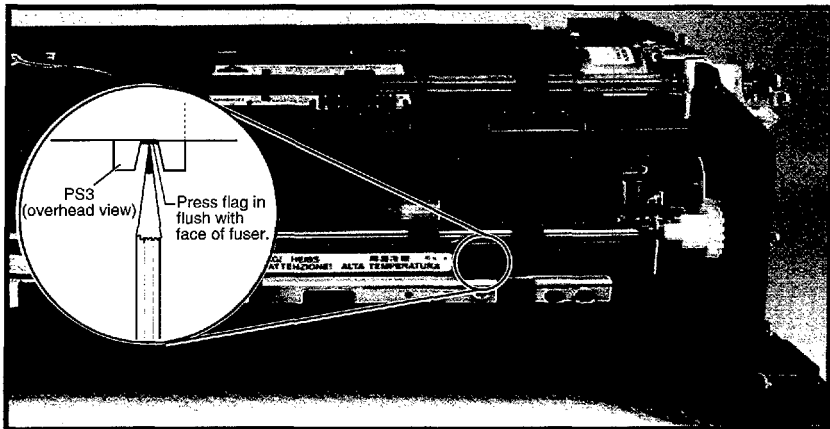

Figure 7-6 Defeating the Exit Sensor Flag (LaserJet 4P/4MP)
- On the rear of the Fusing Assembly, use a pencil or flat-blade screwdriver to press the flag mechanism for the Exit Paper Sensor (PS3) in **just until it is about flush with the face of the fuser** (see Figure 7-6).